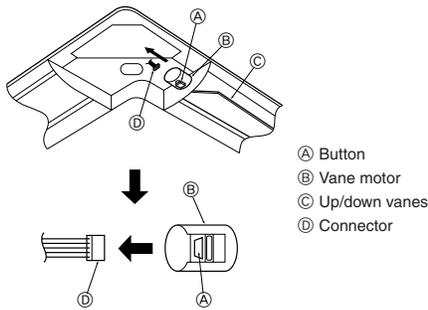

Fig. 8-9
8.5. Locking the up/down airflow direction (Fig. 8-9)